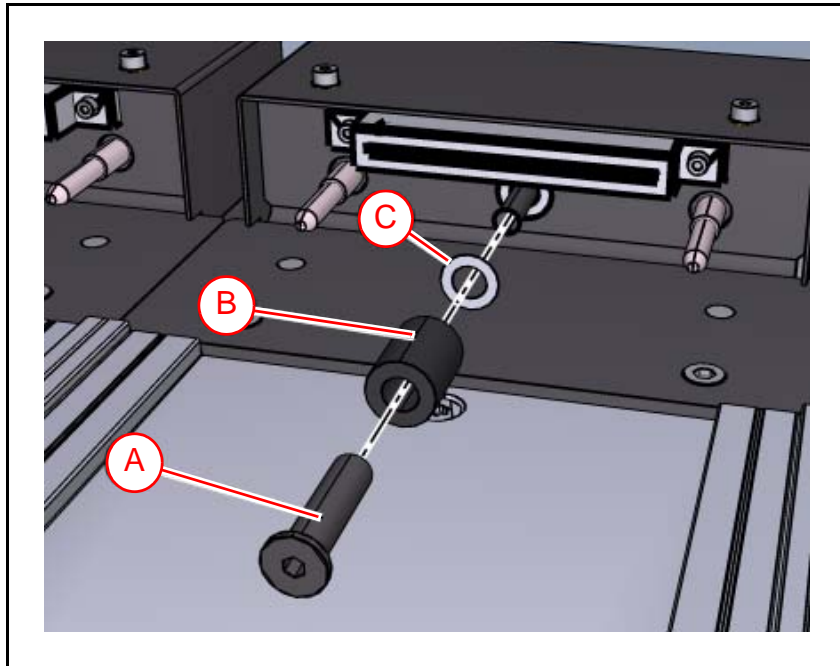

Figure 13-6. Unscrew the Stop Screw.
6. Start by removing the stop screw ('A' in Figure 13-6) and the distance ('B').